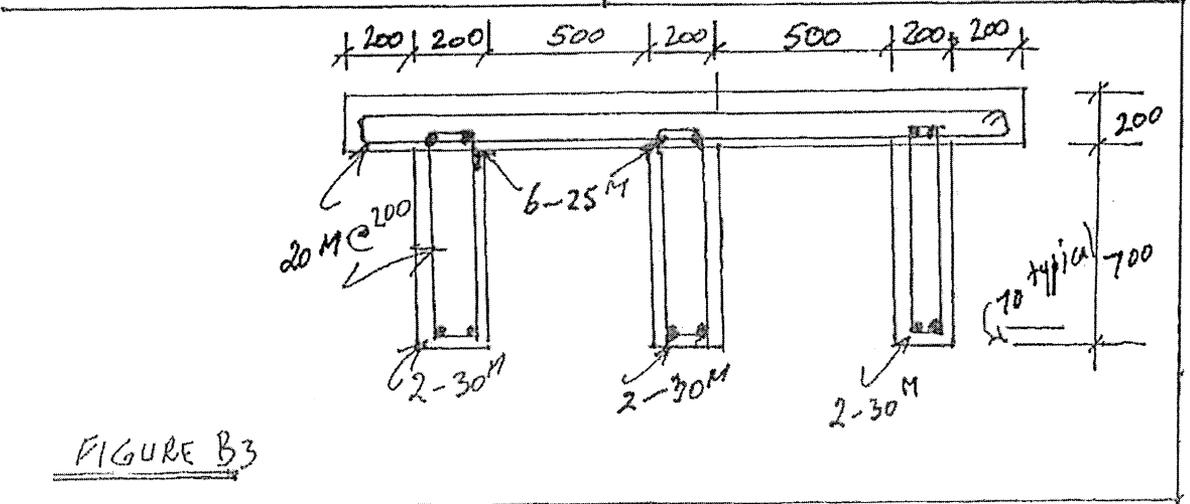

FIGURE B3
- B3. A reinforced concrete triple T-section has dimensions and reinforcement as shown in Figure B3. Calculate its moment of resistance,  $M_r$  and the shear resistance,  $V_r$ . (Use  $f'_c = 35$  MPa and  $f_y = 400$  MPa.)